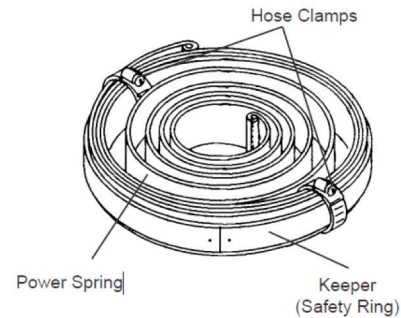

Fig. 12
8. Protect your hands with heavy Leather Gloves. Before removing the power spring, assure it with clamps, helping yourself with locking type pliers to compress and hold several rows of the power spring together (fig. 12). Then remove carefully the power spring.